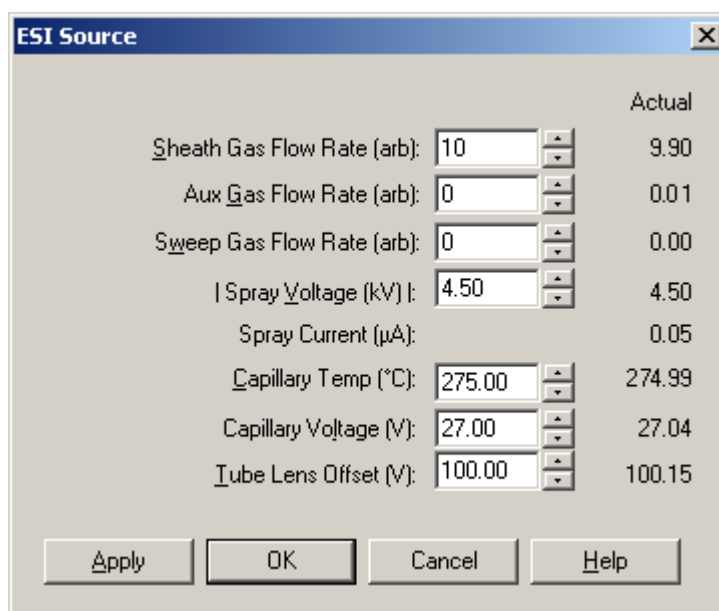

Figure 3-10. ESI Source dialog box, showing typical parameters after automatic tuning
8. Click on the ESI Source dialog box to examine the ESI source parameters after tuning. Compare the settings shown in Figure 3-10 with the pre-tune settings shown in Figure 3-4 on page 3-6.